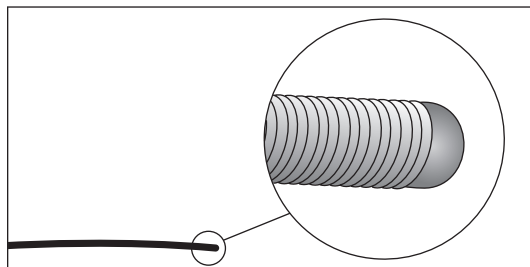

Figure 23
1. Examine tip of placement wire after removal to ensure wire has not been altered (see Figure 23).